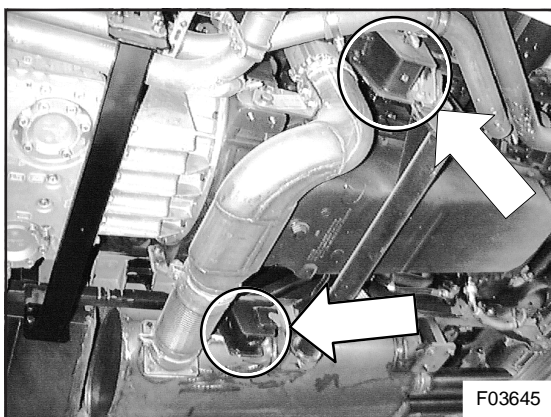

Figure 9: Rear towing anchor points
- Chassis rear towing anchor points (see Figure 9).